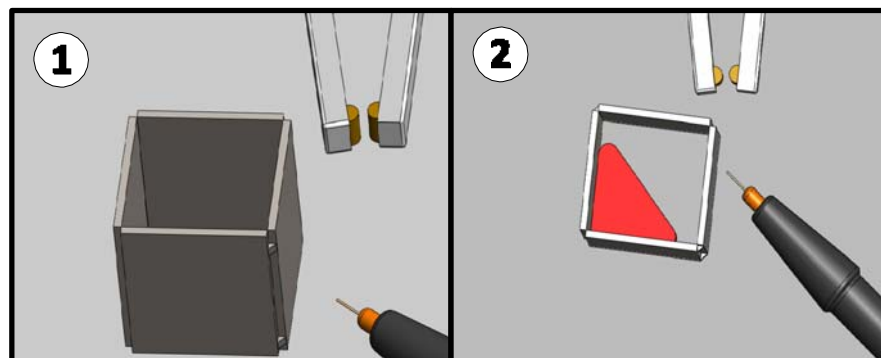

Figure 8: Grinding off burs- (1) Position the two L's together to make a box. (2) Have the magnet on the inside of the box.
Step 10: Position the two L's made in Step 5 and Step 8 together as shown in Figure 8 and tack them together.